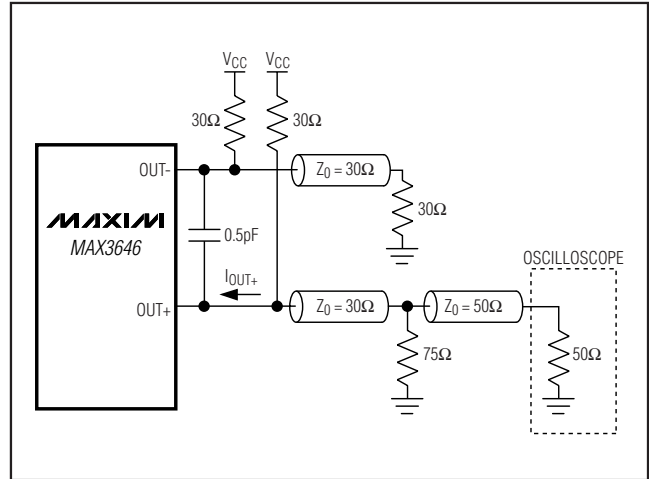

Figure 2. Test Circuit for Characterization
**Note 1:** AC characterization is performed using the circuit in Figure 2 using a PRBS 223 - 1 or equivalent pattern.